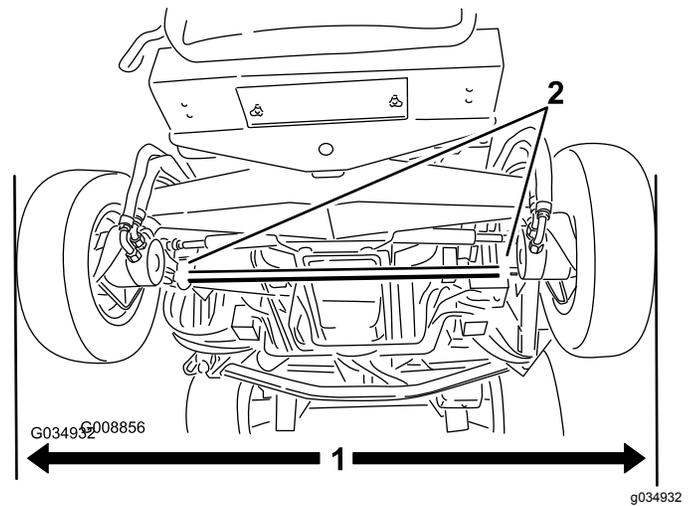

Figure 118
1. With the rear tires in a straight position, measure the outside distance (at axle height) at the front and rear of the rear tires (Figure 118).
2. To adjust the toe-in, loosen the clamps at both ends of the tie rods (Figure 118).